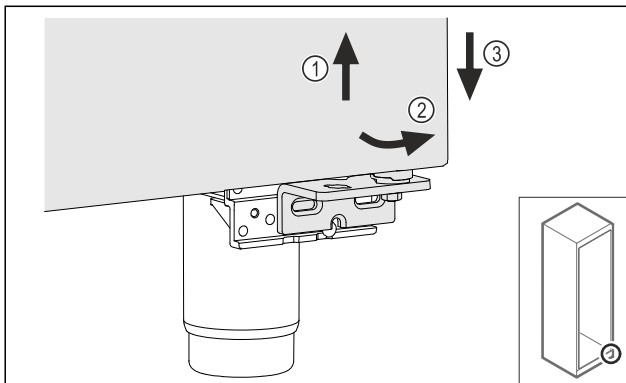

Fig. 11
- ▶ Lift the door slightly Fig. 11 (1), tilt it forwards at the bottom Fig. 11 (2) and lower it Fig. 11 (3).